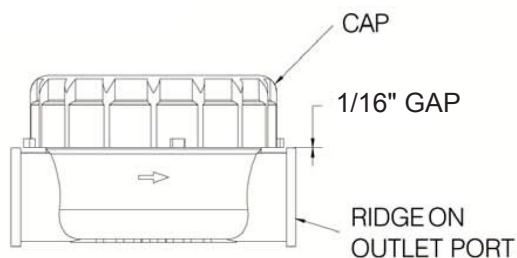

Figure 3
6. Thread on meter cap until hand tight. To check tightness, there should be approximately 1/16" gap between the cap and ridge on outlet port (see figure 3).